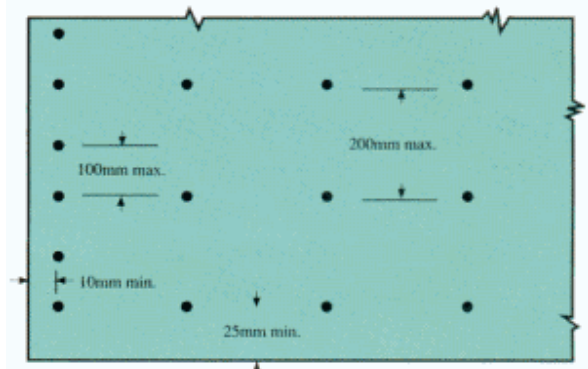

Figure 3. Close Fixing
- * For Concentrated Loads higher than 3.0kN or Uniformly Distributed Loads higher than 7 KPa, Close Fixing should be used (see Sect 8.6 and Figure 3). **AND**